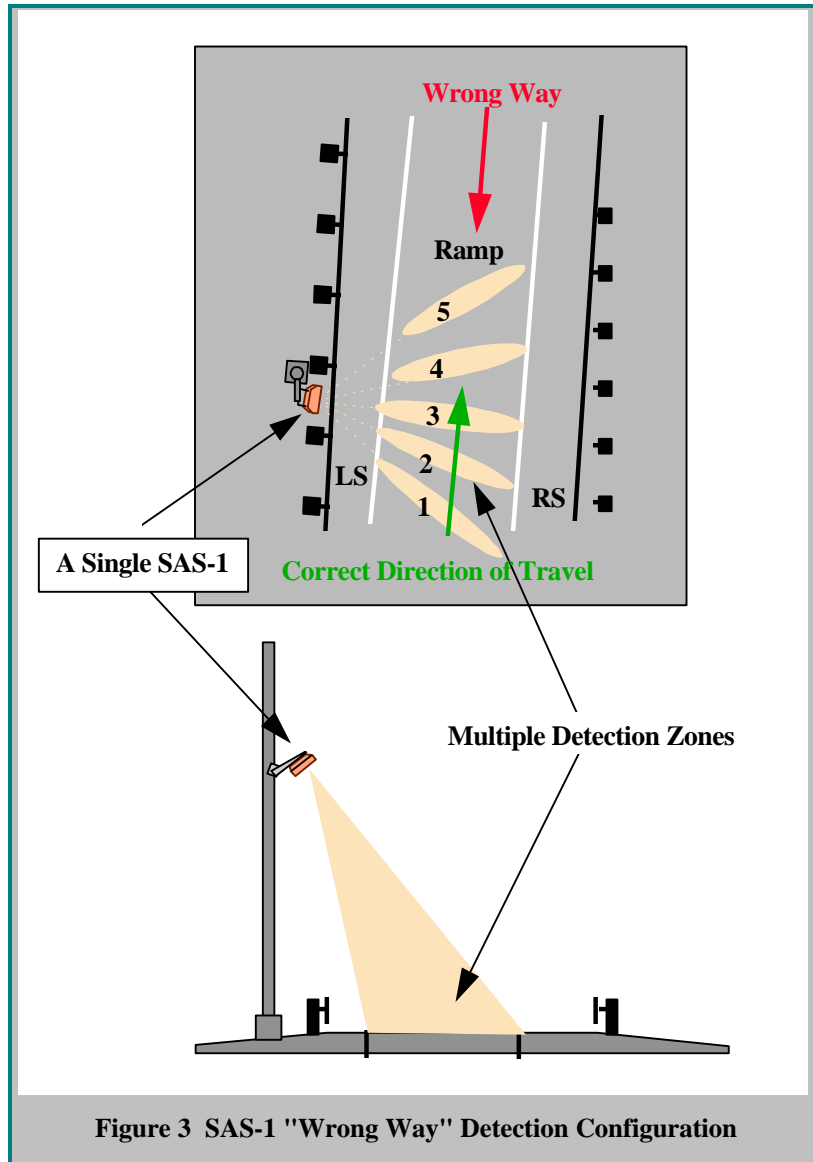

Figure 3 SAS-1 "Wrong Way" Detection Configuration
vehicles, there is no loss of detection performance due to variation in weather or environmental conditions or visibility conditions. For a typical “Wrong Way” detection system installation as shown in figure 3. The maximum number of zones monitored by the SAS-1 is set at five(5). Inherent in this configuration, is the capability for the SAS-1 to measure per vehicle speed. This capability is not included as a standard output at this time. For the configuration shown in figure 3, a vehicle traveling in the correct direction will be detected in the SAS-1 detection zones in the following sequential order: zone 1, then 2, then 3, then 4, and finally zone 5. A vehicle traveling the “Wrong Way” will be detected in the SAS-1 detection zones in the opposite sequential order as follows: zone 5, then 4, then 3, then 2, and finally zone 1. Obviously, the spacing of the zones will determine the response time for the “Wrong Way” detection. The number of zones used is selectable, however, using more than two (2) is recommended to minimize the chance of false “Wrong Way” alarms.